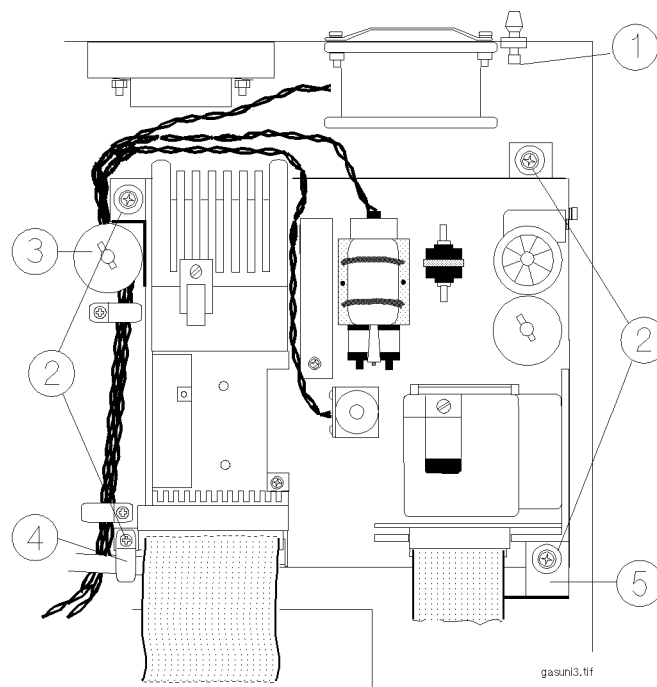
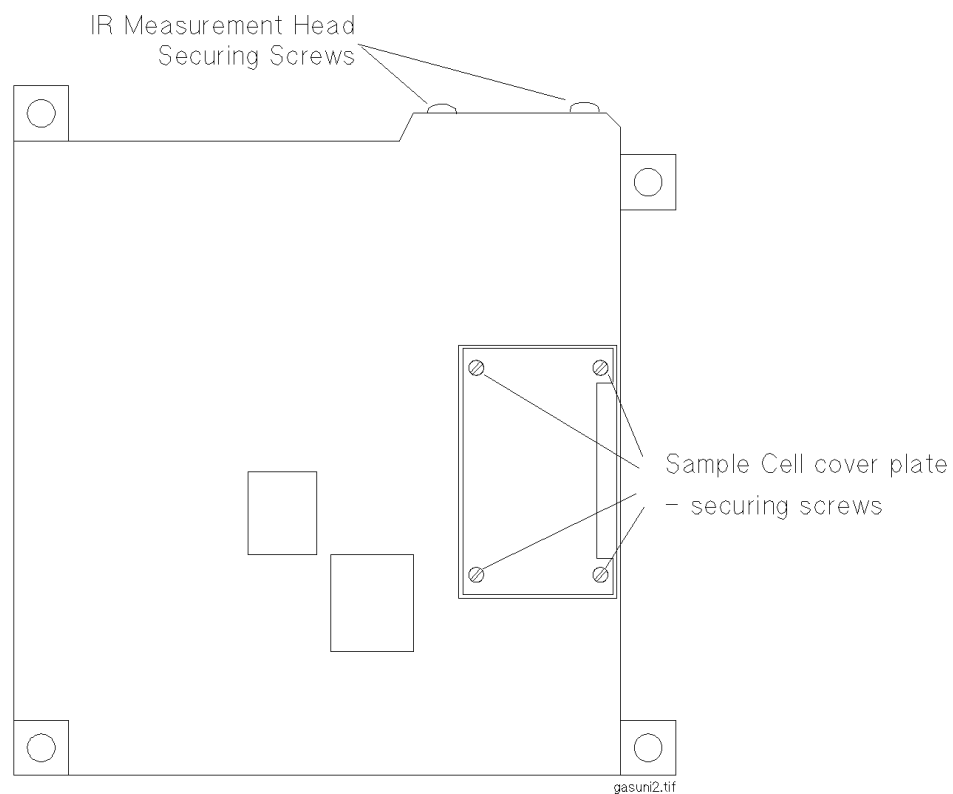

Figure 58 Lifting the IR Measurement Mounting Bracket
Figure 59 Underside of the IR Measurement Mounting Bracket
Several of the field replaceable subassemblies are mounted on the IR measurement mounting bracket, which is a subassembly of the Anesthetic Gas Module, as shown in Figure 58.
To lift the IR Measurement mounting bracket (refer to Figure 58 and Figure 59):
- 3 Remove the connection from the gas exhaust (1).
- 4 Using a cross-tipped screwdriver, remove the four screws and lock washers (2) securing the IR Measurement mounting bracket to the module.
- 5 Lift the IR Measurement mounting bracket and stand it carefully on its end, so that the ribbon cables are at the bottom. The securing screws on the underside are now accessible, as shown in Figure 59.
To replace the IR Measurement mounting bracket (refer to Figure 58 and Figure 59):